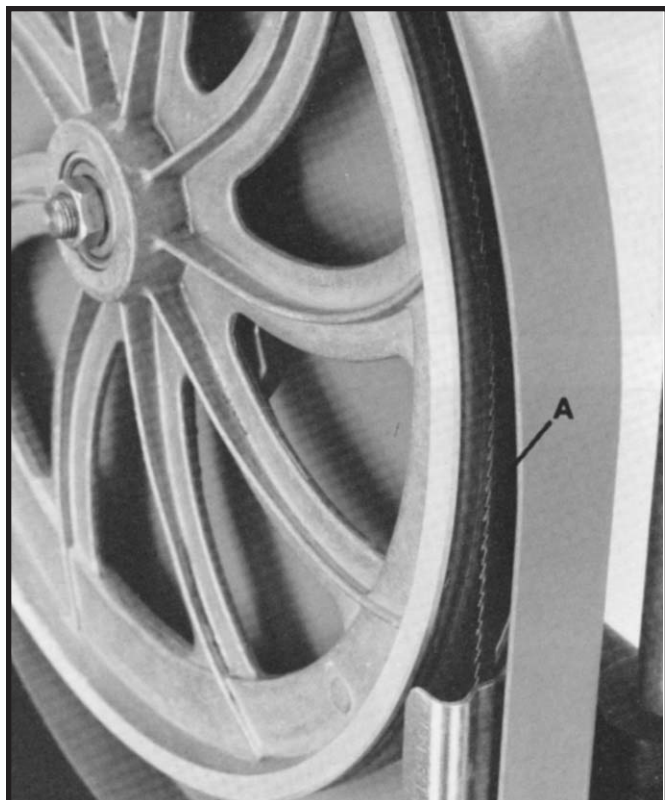
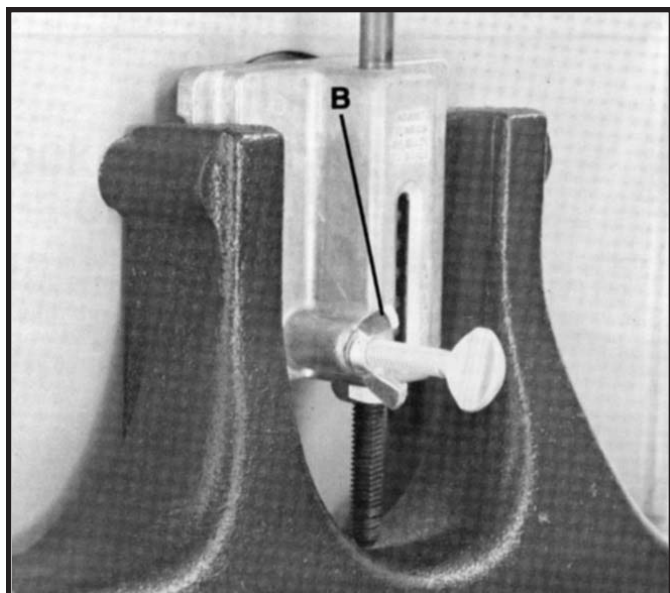

Fig. 19
Fig. 20
After tension has been applied to the blade, revolve the wheels slowly forward by hand and watch the blade (A) Fig. 19, to see that it travels in the center of the upper tire. If the blade begins to creep toward the front edge, loosen the wing nut (B) Fig. 20, and tighten the thumb screw (C). This will tilt the top of the wheel toward the back of the machine and will draw the blade toward the center of the tire. If the blade creeps toward the back edge, turn the thumb screw in the opposite direction. Adjust the thumb screw (C) Fig. 20, only a fraction of a turn at a time. **NEVER TRACK THE BLADE WHILE THE MACHINE IS RUNNING.** After the blade is tracking in the center of the tires, tighten the wing nut (B) Fig. 20.